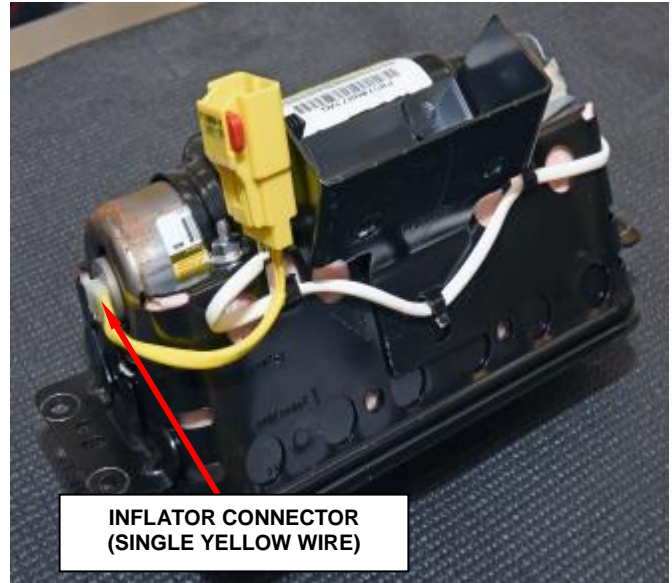

Figure 38 – Inflator Connector
b. Use pliers to grasp the single yellow wire inflator connector then wiggle as you pull up until it is disconnected from the inflator (Figure 38).